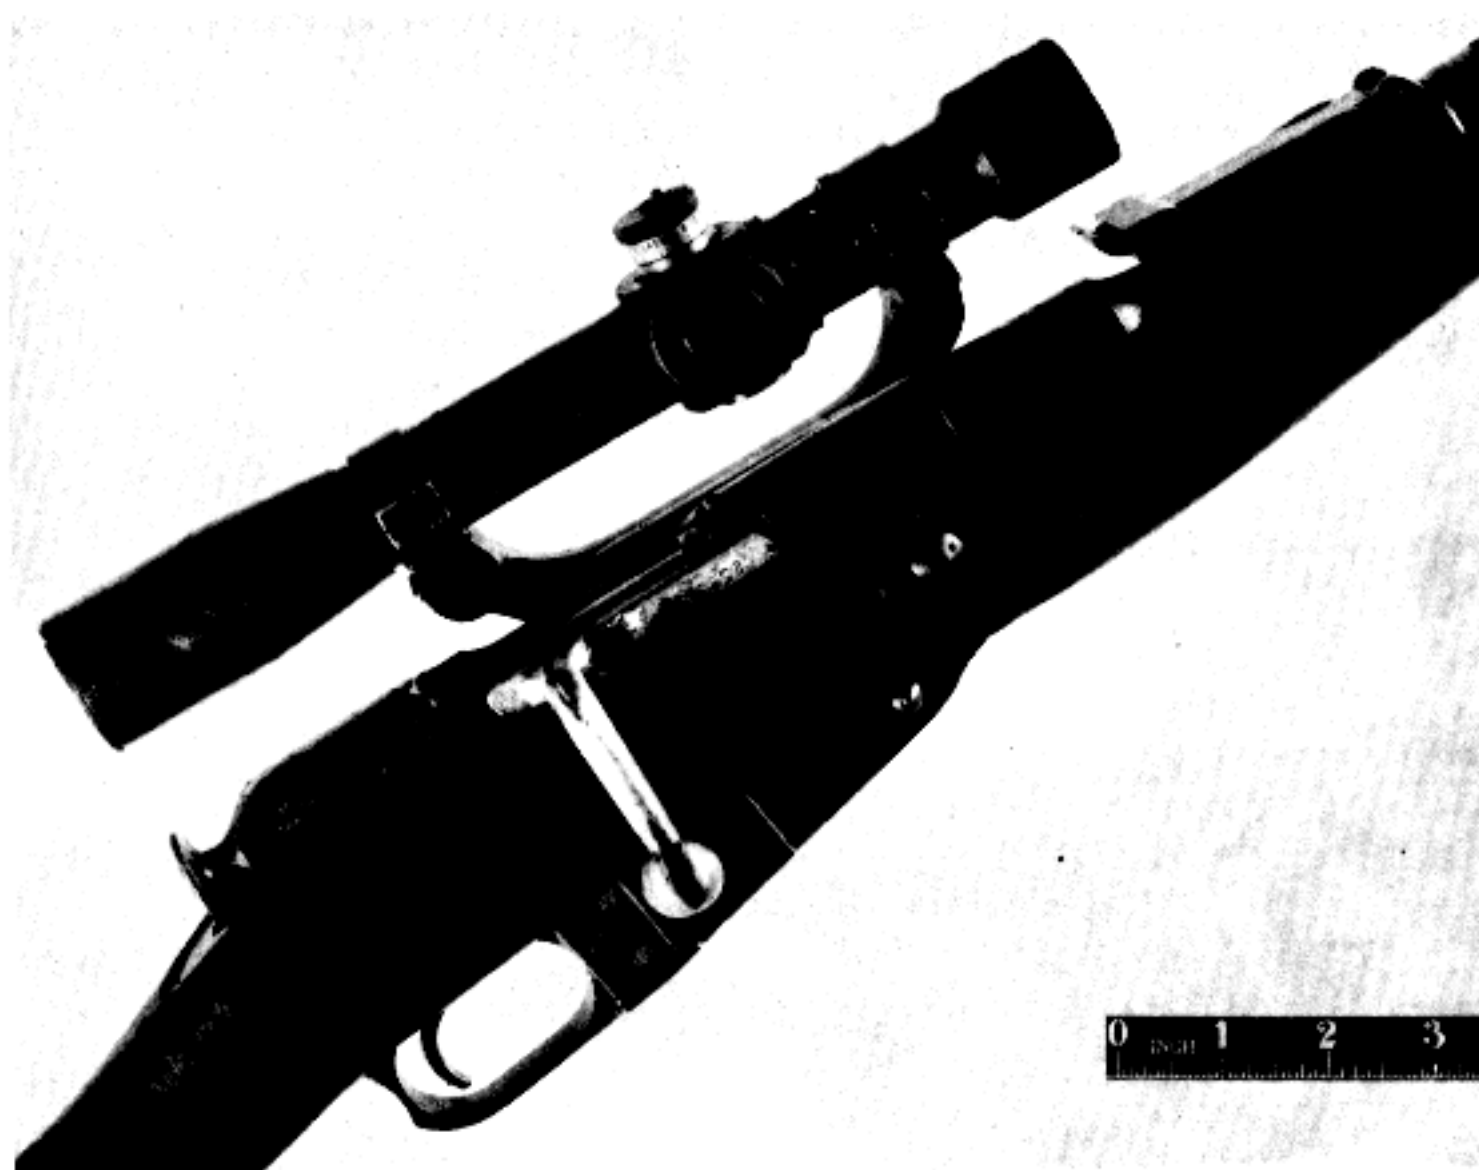

FIGURE 22. SNIPER RIFLE (MODEL OF TELESCOPE AND MOUNT UNKNOWN).
b. The bolt handle has been lengthened and bent down to prevent interference with the telescope (fig. 22).
NOTE: If the PU telescope mount is to be used, these stocks must be cut away so that the mount may rest flush against the receiver. (Use of the unidentified sight mount shown in figure 22 may likewise necessitate cutting away part of the stock.)